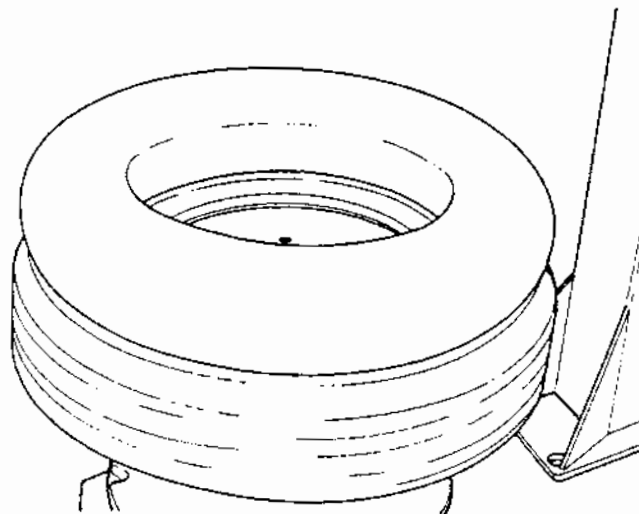

Fig.23
B. Confirm that the tube is the correct size for the tire to be mounted. (Fig.23).